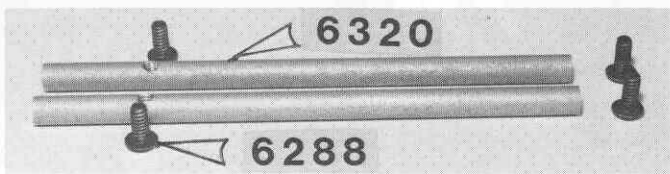

Fig. 133
□ **Fig. 133** In Bag #6-4 are the 2 #6320 nose brace tubes and 4 Allen button head screws, as shown.